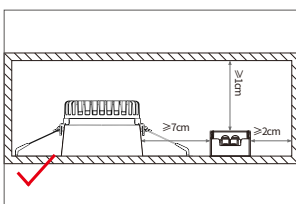

Figure 5
- The driver should be kept at a certain distance from the heating body (such as the luminaire radiator), and the recommended interval distance should be $\geq 7\text{cm}$, as shown in Figure 5.